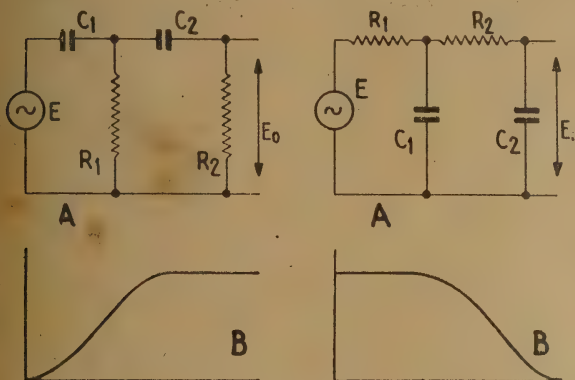

Fig. 15.
Another method of tackling the problem and which may be found simpler to design and construct is to use the paraphase principle and embody high and low pass filters. The filters may be conveniently designed to effect a cross-over at some pre-determined frequency, such as 400 c/s. The high-pass filter may take the form shown in Fig. 14, where (A) is the filter and (B) the resultant response curve, and the low-pass filter and response curve as shown in Fig. 15 (A) and (B). To prevent loading effects